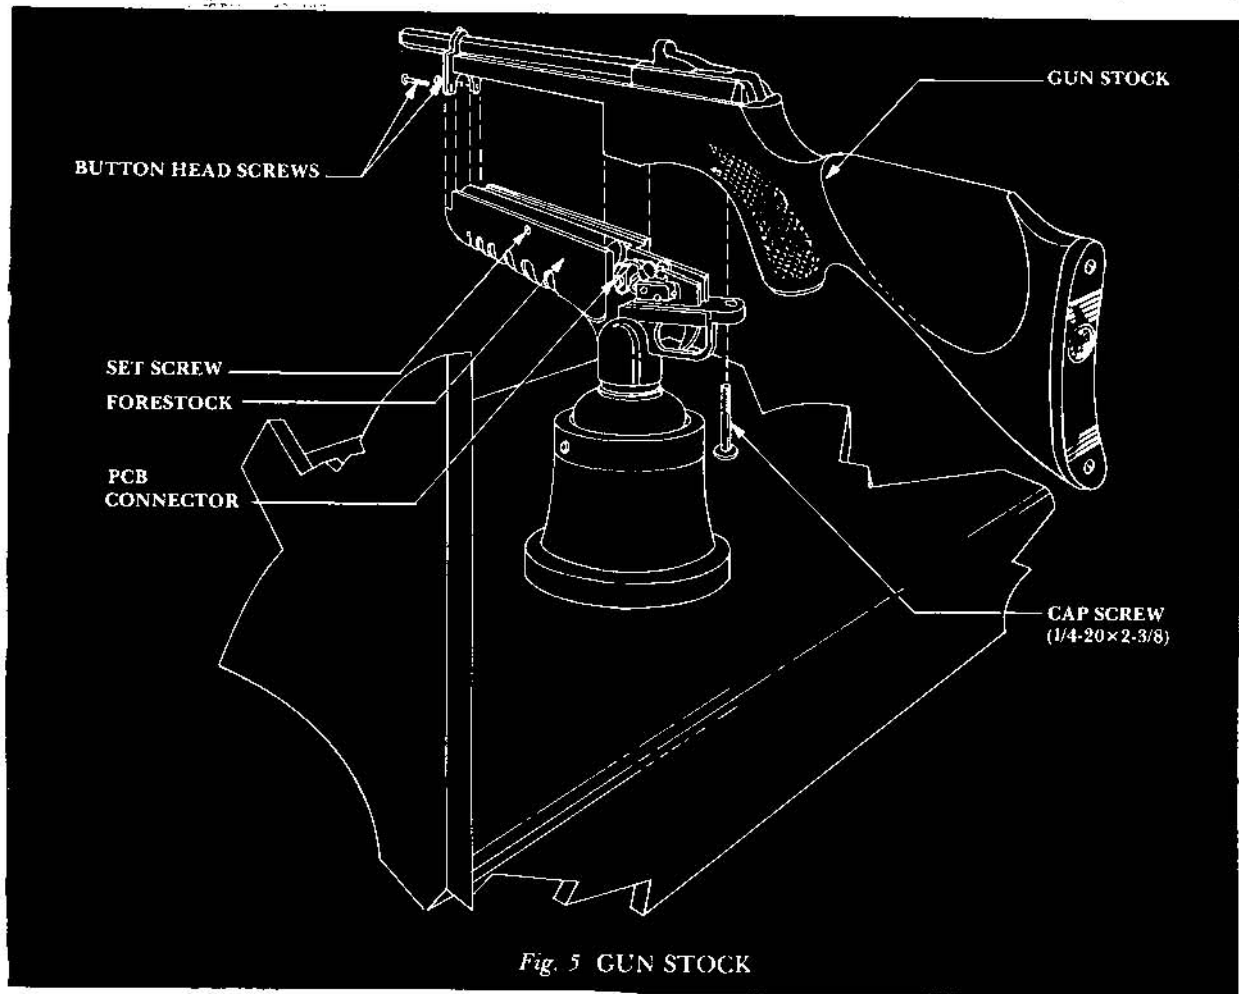

Fig. 5 GUN STOCK
1. To access the optical electronics, remove the (2) button head screws and the (1) cap screw and gently lift the Gun Stock from the Forestock (See Fig. 5).